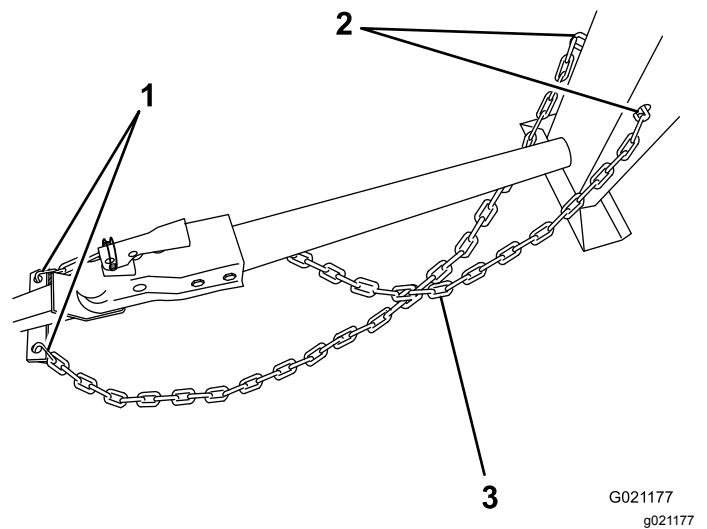
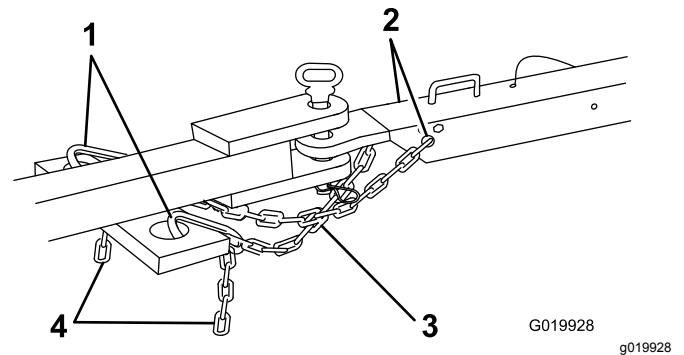

Figure 25
Figure 26
2. Cross both lengths of chain **under** the tow pole (under the tongue for end-dump models). For side-dump models, refer to Figure 25. For end-dump models, refer to Figure 26.